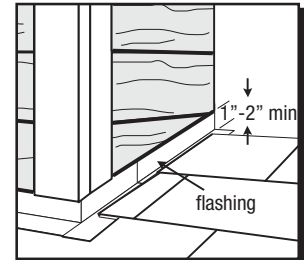

FIGURE 10
- At the juncture of the roof and vertical surfaces, flashing and counterflashing shall be installed per the roofing manufacturer's instructions. Provide a 1"-2" minimum clearance between the roofing and the bottom edge of the siding and trim (fig. 10)